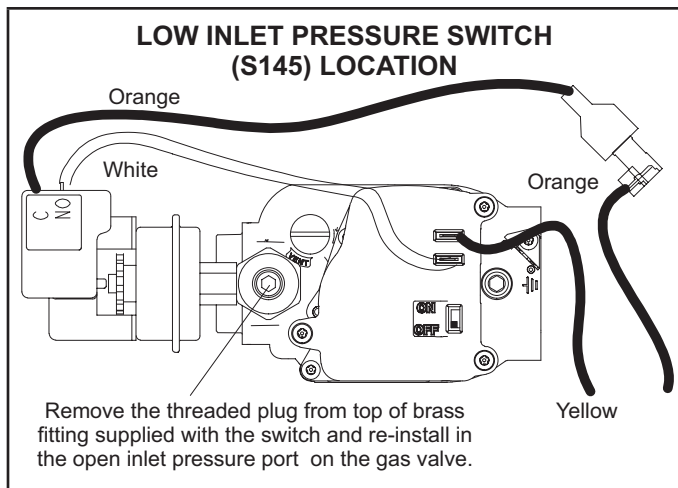
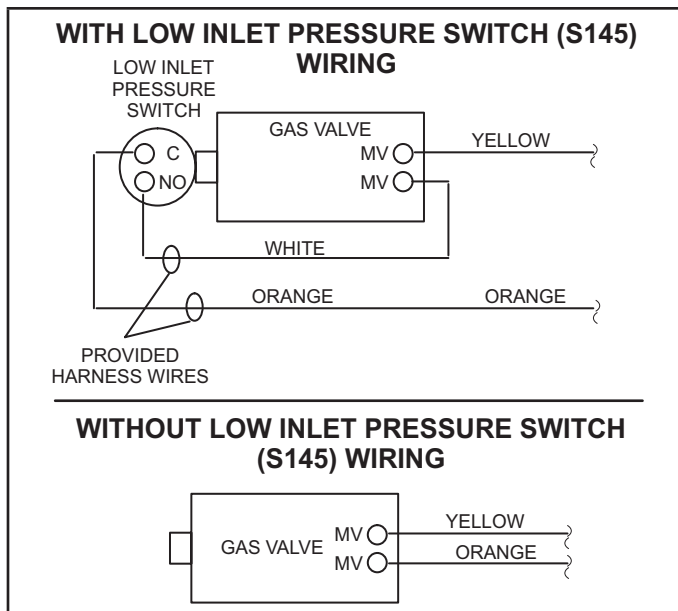

FIGURE 3
FIGURE 4
- 5 - ML193/ML195/EL195 and 92AF1/95AF1 Units - Remove the pressure switch from the inlet pressure port on gas valve. Remove the fitting supplied with the switch and re-install in the open inlet pressure port on the gas valve. See figure 3. Wire as shown in figure 4.
- 7 - Reinstall the manifold/valve assembly. Re-connect wires to the gas valve as shown in figure 4.